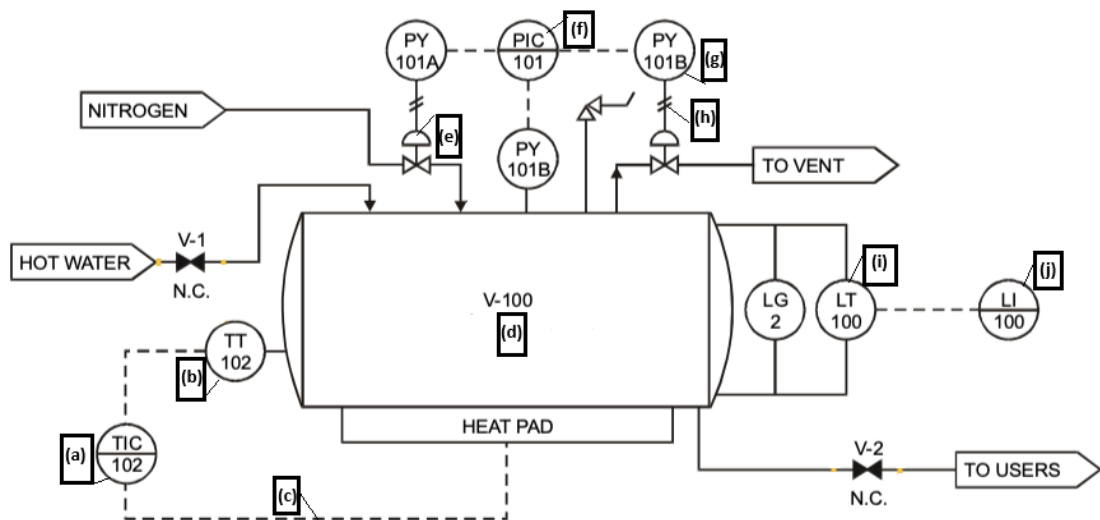

Figure A4(c) / Rajah A4(c)
- (c) In an industrial process plant, fluid is transferred from a storage tank to a process unit through a pipeline system. Proper instrumentation is required to monitor, control, and ensure safe operation of the process flow and pressure. Based on Figure A4(c), change the P&ID symbols into the correct names of equipment, instruments, and pipeline lines for the symbols labelled (a) to (j).